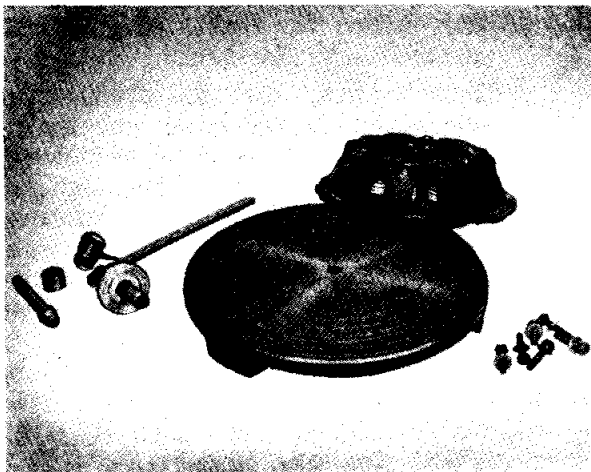

Fig. 8 Spacers in position on Base Plate.
- (c) Clean the top of the base plate and place the three number 3 spacers (Fig. 8) on the positions marked "D".